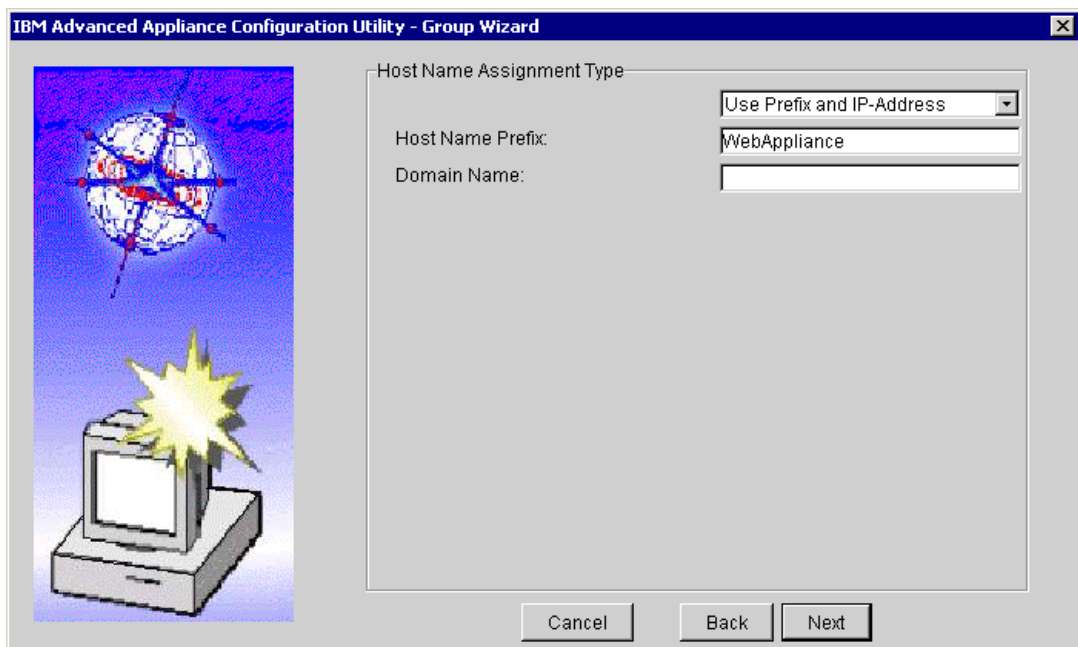

Figure 2-9 Group creation wizard- host name assignment type
6. Click **Next** to continue, and you’ll see the window in Figure 2-9.
The example in Figure 2-9 shows the Use Prefix and IP-Address option. If you choose this option, all your appliance names will begin with the same prefix characters, and you need to enter a Host Name Prefix in the field. For example, we entered the following: